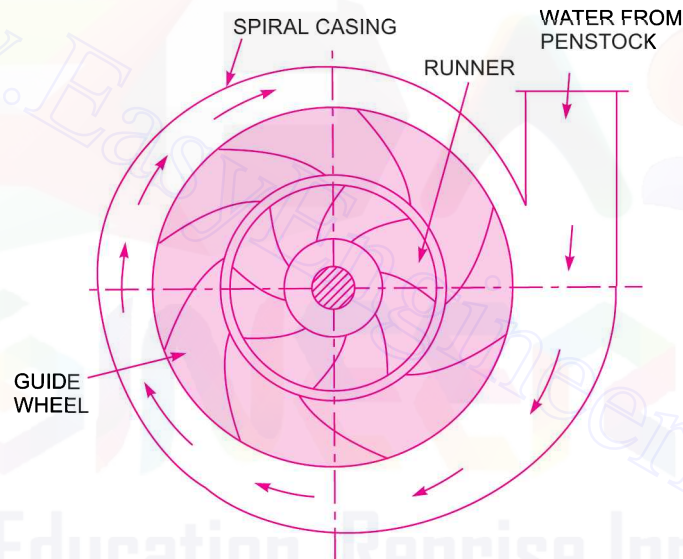

Fig. 18.10 Main parts of a radial reaction turbines.
**1. Casing.** As mentioned above that in case of reaction turbine, casing and runner are always full of water. The water from the penstocks enters the casing which is of spiral shape in which area of cross-section of the casing goes on decreasing gradually. The casing completely surrounds the runner of the turbine. The casing as shown in Fig. 18.10 is made of spiral shape, so that the water may enter the runner at constant velocity throughout the circumference of the runner. The casing is made of concrete, cast steel or plate steel.